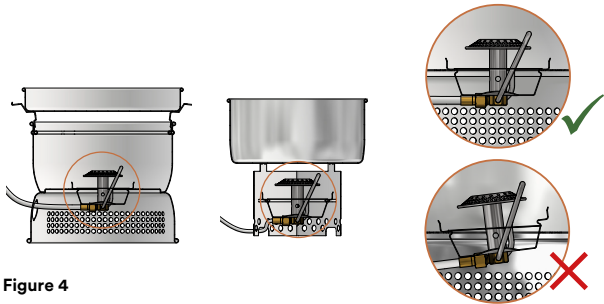

Figure 4
- 3.2. Place the burner in the stove and the hose thru designated hole on the side. Both sides of the holder shall snap in position, and lay parallel to the windshield, see figure 4.